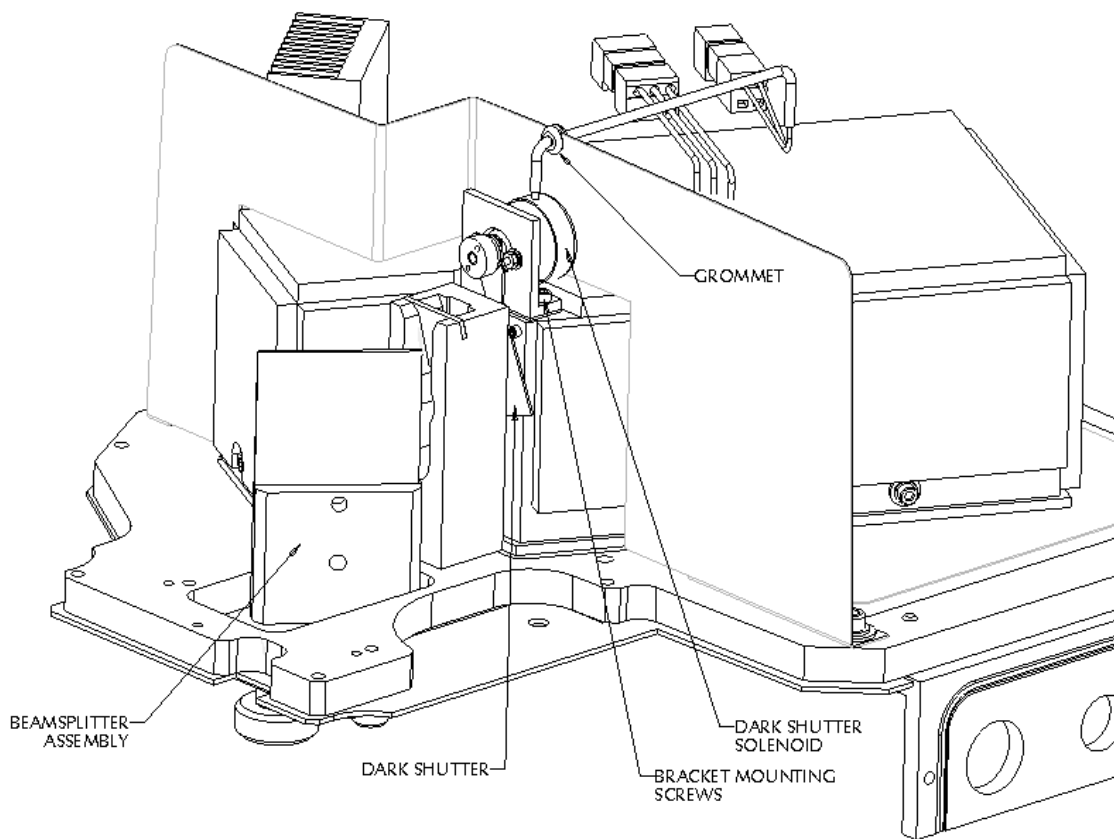

Figure 8-3: Beamsplitter/Shutter
8. The dark shutter solenoid is located at the corner of the optical bench cover (See Figure 8-3). Remove the 2 socket head cap screws that hold the solenoid bracket to the cover. Be careful not to lose the white pad that is under the bracket. Remove the grommet from the light shield and unplug the connector. Remove the WAGO connector from the end of the solenoid wires. (You will need a WAGO tool to do this.) Slide the grommet off of the wires.